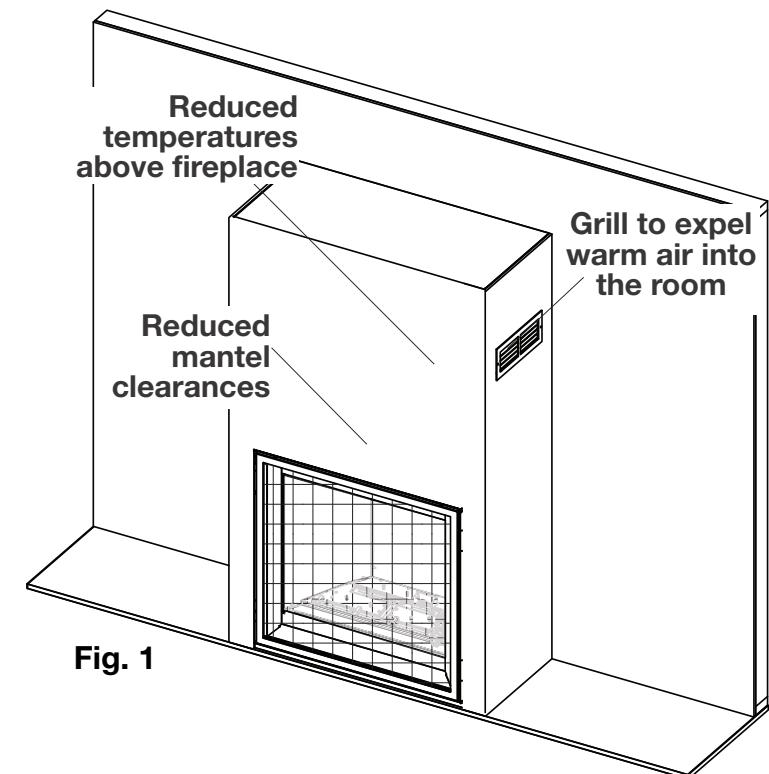

Fig. 1
- Mantel clearances can be reduced with Altitude™ X Heat Management System (AXHM) (see page 42 in Installation Manual) (**Fig. 1**).